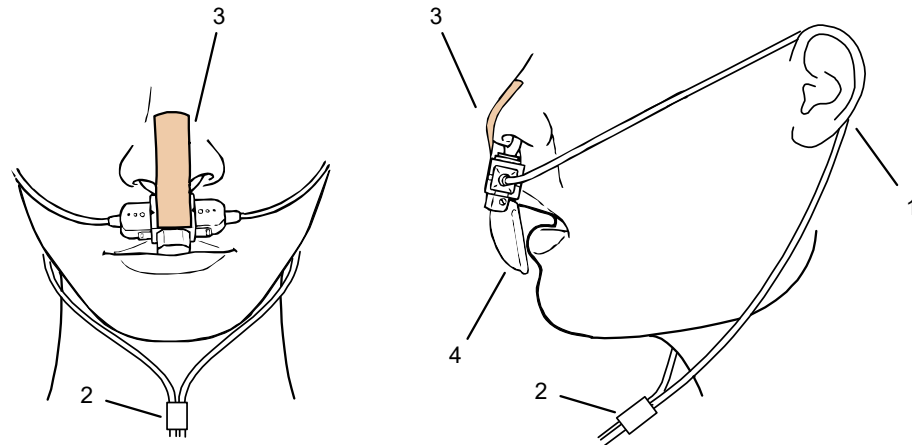

Fig. 6-27 Fitting the disposable CO2 nasal(/oral) adapter on the patient
- Position the sensor cable behind the ears (Fig. 6-27, item 1) and slide the fastening ring (Fig. 6-27, item 2) loosely towards the chin.
- Attach the disposable adapter to the nose with the adhesive tape provided for this purpose (Fig. 6-27, item 3).
- The oral breath collector (Fig. 6-27, item 4) must not be more than 10 mm away from the lower lip.